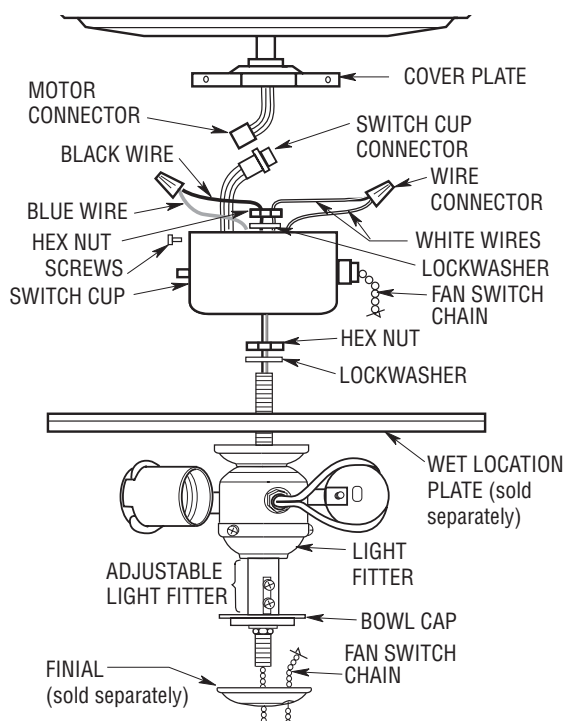

Figure 2
6. Insert the black and white wires from the light fitter through the center hole in the switch cup (Figure 2) and thread the switch cup onto the light fitter. Hold wires taut while installing switch cup to prevent the wires from twisting. Tighten the fitter until the fan switch chain aligns with the hole in the fitter.
7. **If installing in a wet location:** Install the light fitter on plate using the lockwasher, nut and rubber washer supplied with wet location plate. Place the rubber washer on the top of the wet location plate, then place the light fitter through the center hole of the wet location plate, secure with lockwasher and nut (Figure 2).
8. Insert the black and white wires through the lockwasher and hex nut (supplied), firmly tighten the hex nut to secure the light kit fitter to the switch cup. Connect the white wire from the switch cup to the white wire of the light fitter (Figure 2). Connect the blue wire from the switch cup to the black wire of the light fitter. Use listed wire connectors (previously removed in Step 5) to make connections (Figures 2 and 3).
9. Carefully tuck all wires and splices into the switch cup. (Figure 2.)